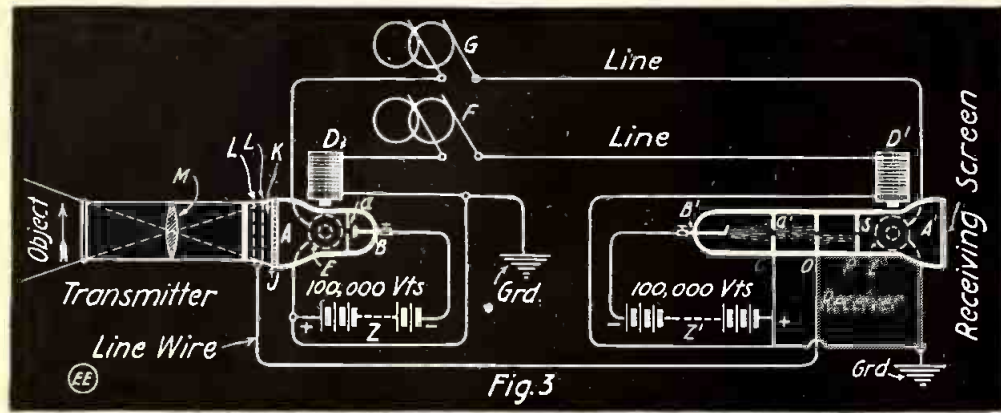

Fig. 3. Diagram of Proposed "Television" Scheme.
We may now briefly consider the operation of this apparatus advocated by Mr. Campbell-Swinton, and which has been favorably received by the scientific world, although as yet not practically demonstrated. The schematic diagram, Fig. 3, will help the reader to understand the diagnosis of its operation. Three line wires are necessary between the apparatus, as observed from the illustrations at Figs. 1 and 3. At the transmitter end of the line there is used a focusing lens barrel "X." The object whose reproduction is to be electrically transmitted over the line is arranged at the tube opening, as at "N." A Crooke's vacuum tube is used at "A" and at "B" is the cathode electrode of the tube, from which the cathode rays are shot forth at an incredible velocity and which have
Above (Fig. 5) Receiving Microphone Installed on Shell of Submarine. Fig. 3 Shows Morse Telegraph Key and Switch-board for Transmitter.
2. A commercial type Morse key, Fig. 3, operates a magnetic clutch D on the shaft by pressing the key, thus supplying current to the electromagnets in the clutch and connecting the worm gear in case E, which is connected in turn to the felt-edged wheel A. This wheel contains a reservoir inside it, in which alcohol is placed in order to feed the felt continuously.